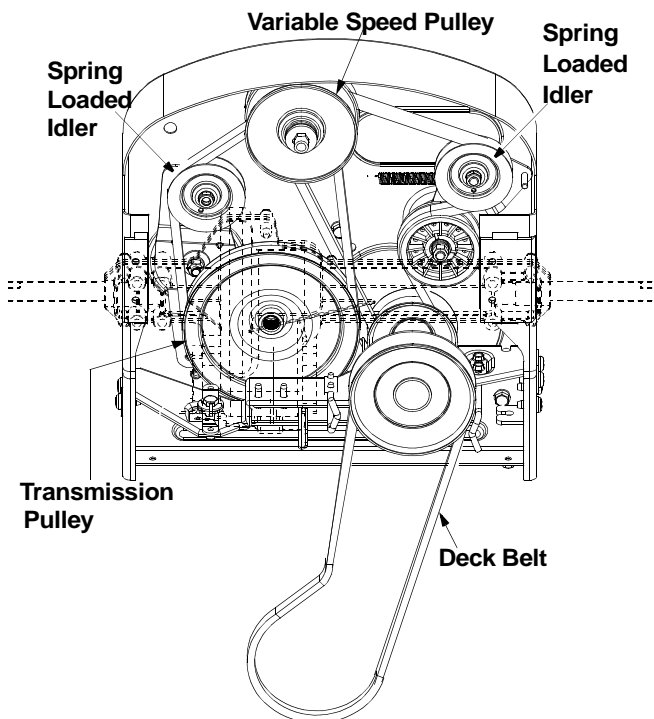

Figure 14
- Push the spring loaded idler, located on the left side of the transmission, to the right. Remove belt from around the idler and then the transmission pulley. See Figure 14 .
- Using a 9/16" socket, remove bolt, spacer and the flat washer from the variable speed pulley. See Figure 14 .
- Push the idler bracket to the right and remove the belt. See Figure 14 .